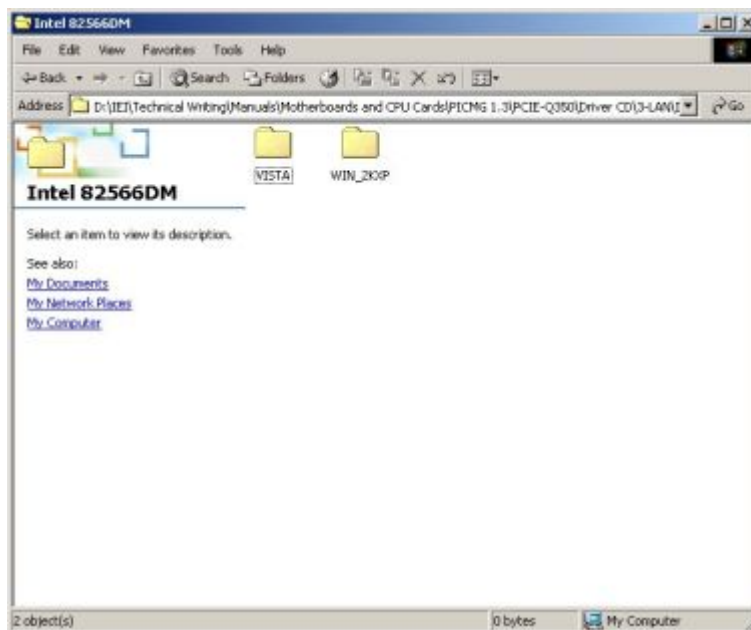

Figure 6-20: Intel® 82573 Operating System
Step 4: The window in Figure 6-20 appears.
Step 5: Select the Operating System in **Figure 6-20**.